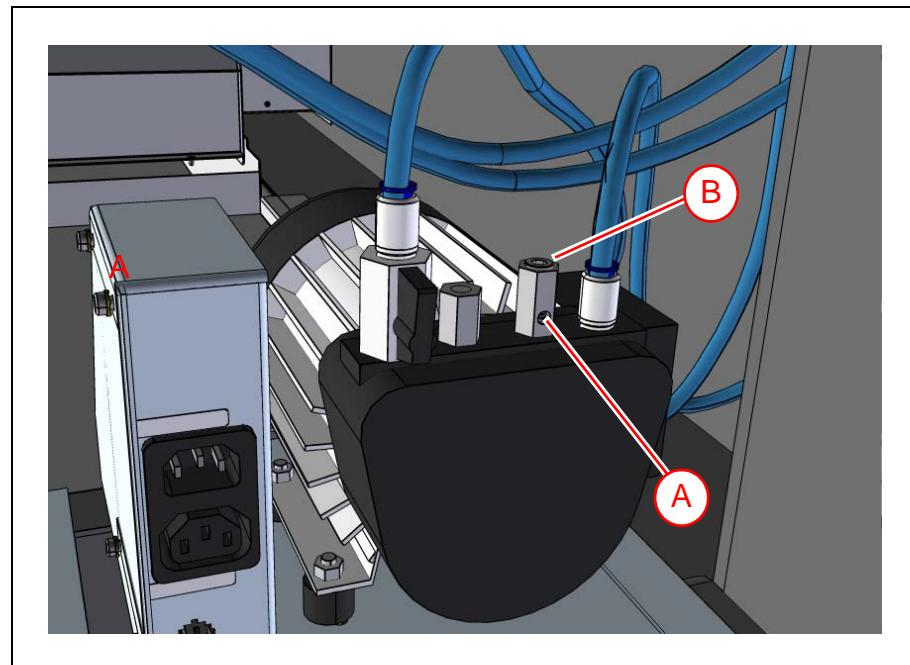

Figure 10-14. Adjusting the vacuum pump pressure.
1. Loosen the locking screw ('A' in Figure 10-14) somewhat.